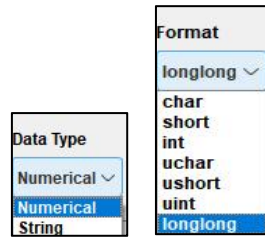
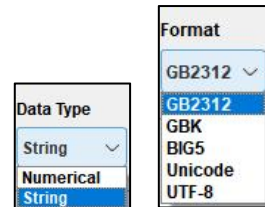

Figure 9-8: Numerical Data Type
Figure 9-9: String Data Type and Format
- ❶ **Var Addr:** Input a variable address
- ❷ **Data:** Data entry box. Input the data to be sent here. For read operation, the read data will be shown here too. Both decimal and hexadecimal numbers are acceptable. When inputting hexadecimal numbers, 0x must be added in front of the numbers.
- ❸ **Read/Write:** To trigger a read or write operation. Only allowed to read from / write to one address at a time.
- ❹ **Data Type & Format:** There are two data types available, **Numerical** and **String**. For **Numerical** type, there are 7 data formats available, as shown in Figure 9-8. For **String** type, there are 5 encoding formats available, as shown in Figure 9-9. Refer to Sending Data by UI_Editor-II for more details.